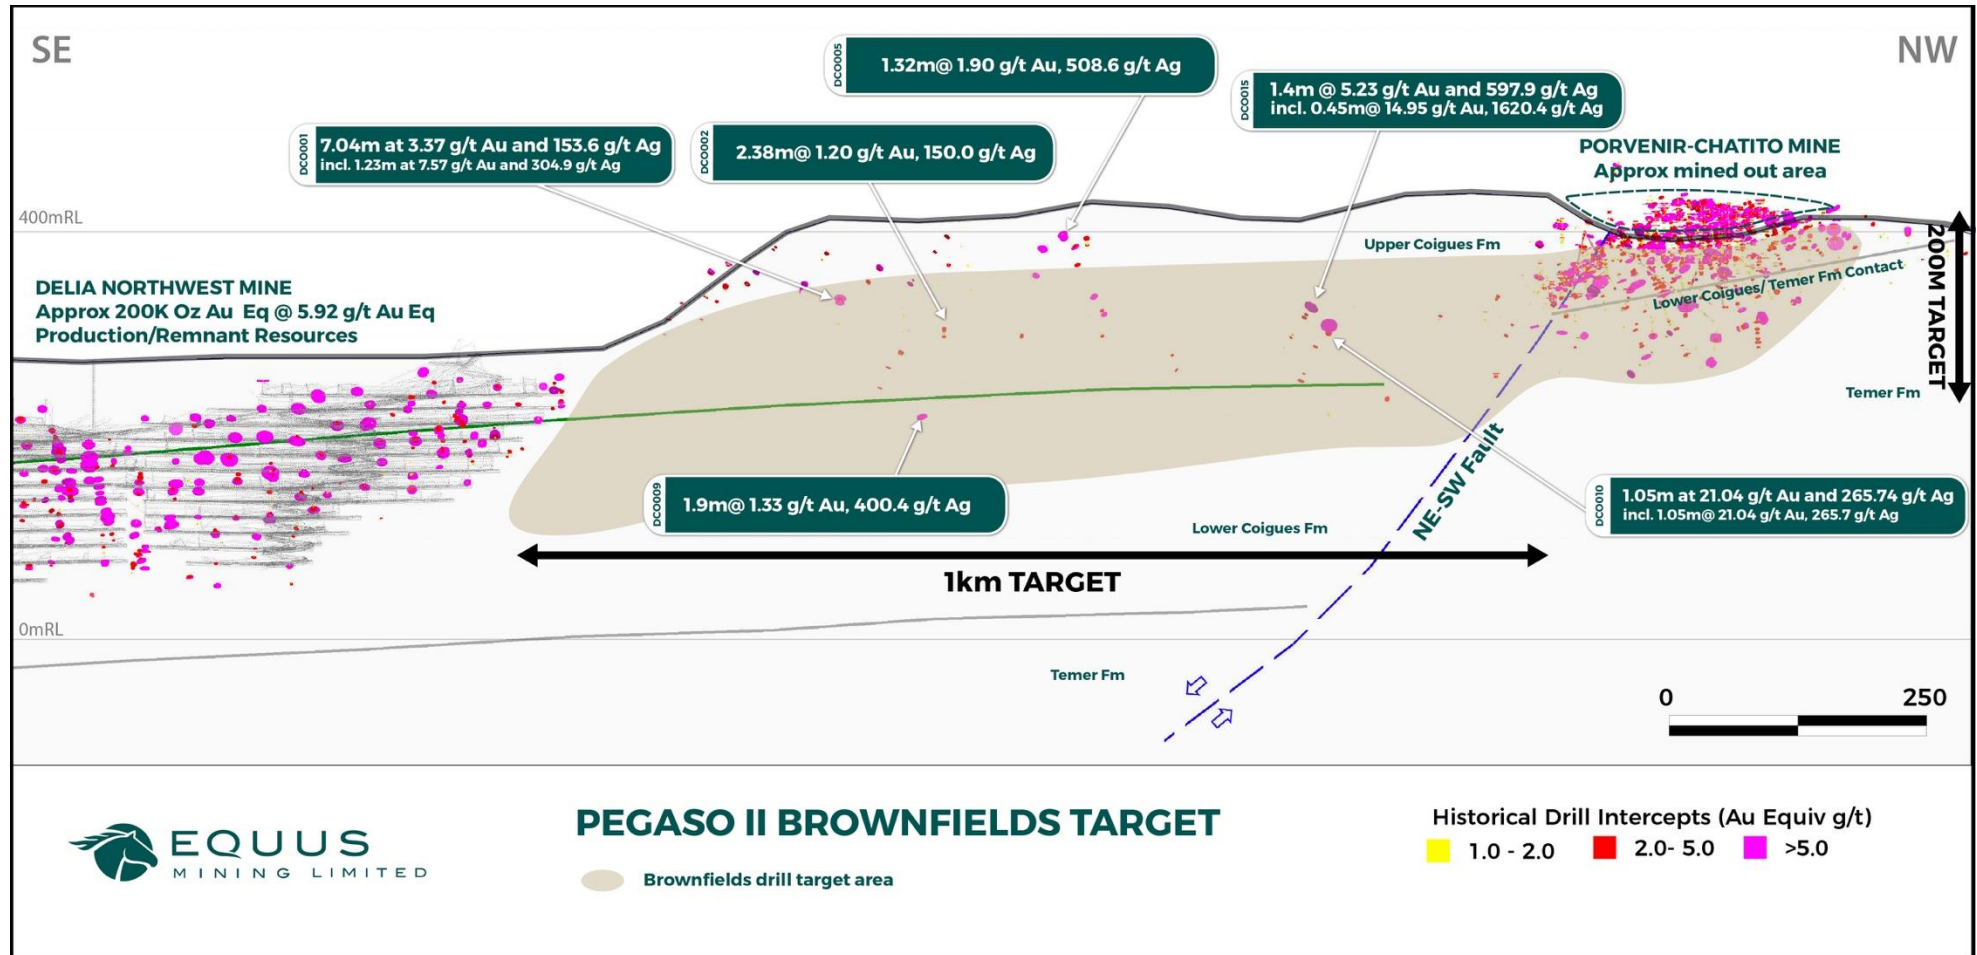

Figure 2- Pegaso II Brownfields Target, with historical drilling results and target area
- ▶ **PEGASO II:** 1km long trend which extends along strike of host faulting between the Delia NW and Porvenir-Chatito Mines (Figure 2). Historic gold and silver intercepts include¹: